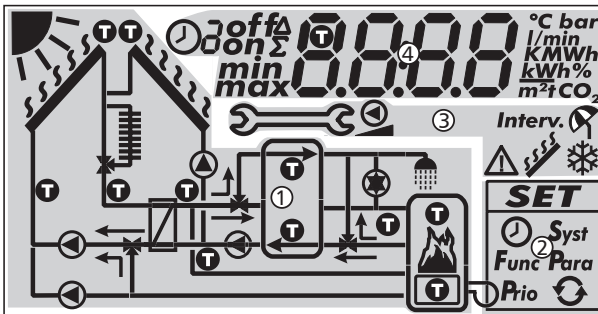

Fig. 8: Overview of the display areas (all elements visible)
The following table describes the symbols used in the system graphics (① in Fig. 8).
The settings menu (② in Fig. 8) contains the following entries:
The following table describes the pictograms used for functions (③ in Fig. 8).
The display of the operational and setting values (④ in Fig. 8) consists of the following elements:
①	<p>Symbol for time control of functions. This symbol is displayed when:</p> <ul style="list-style-type: none"> <li>• a time restriction / control has been set,</li> <li>• the status of time restriction/control is displayed,</li> <li>• the time restriction blocks a temperature control (symbol flashes).</li> </ul>
②	<p>Number of the time window that is currently being set/displayed or within which the current time lies. The time control of a function consists of 1 to 3 configurable time windows. Example: Time window 1 06:00 – 08:00 Time window 2 11:00 – 12:30 Time window 3 17:00 – 19:00</p>
③	<p>Additional information on, off: Switching state/condition on, off max, min: Maximum value, minimum value Σ: Summed operational value since first commissioning, cannot be reset Δ: Summed operational value since last reset to 0</p>
④	<p>Symbol is displayed when a temperature sensor is selected when setting a function.</p>
⑤	<p>Display of:</p> <ul style="list-style-type: none"> <li>• Measurements</li> <li>• Settings</li> <li>• Error codes</li> <li>• Additional information, e.g. software version</li> </ul>
⑥	<p>Physical unit of the value displayed in ⑤: °C, K, l/min, %, h, kWh, MWh, tCO2</p>